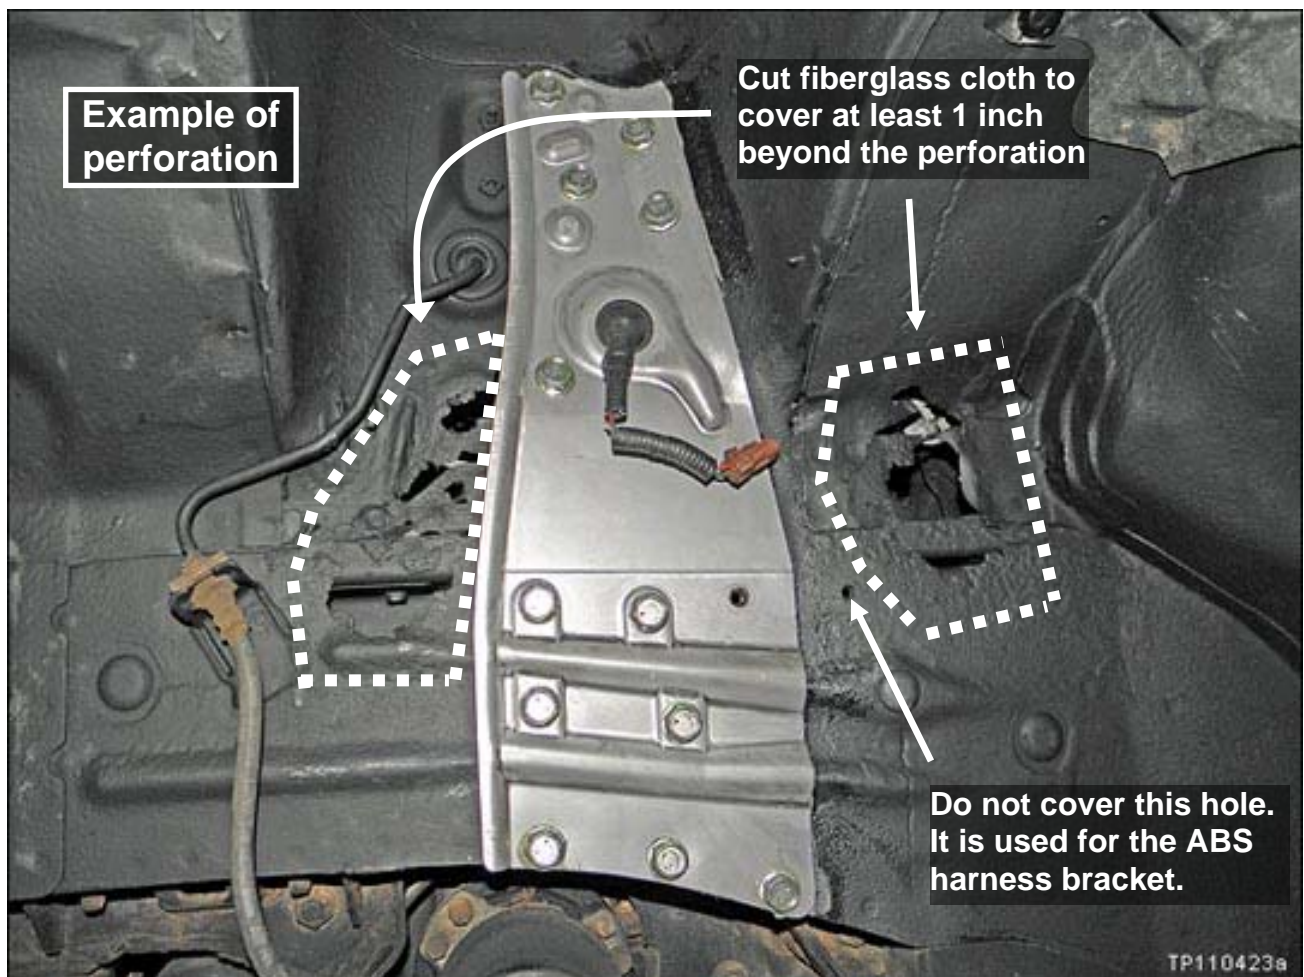

Figure RB29
NOTE: The photo in Figure RB29 is an example of possible perforation. The vehicle you are working on may have perforation in additional areas, areas different than these, or may not have any perforation.
33. Cut fiberglass cloth to cover perforated areas (see example in Figure RB29).